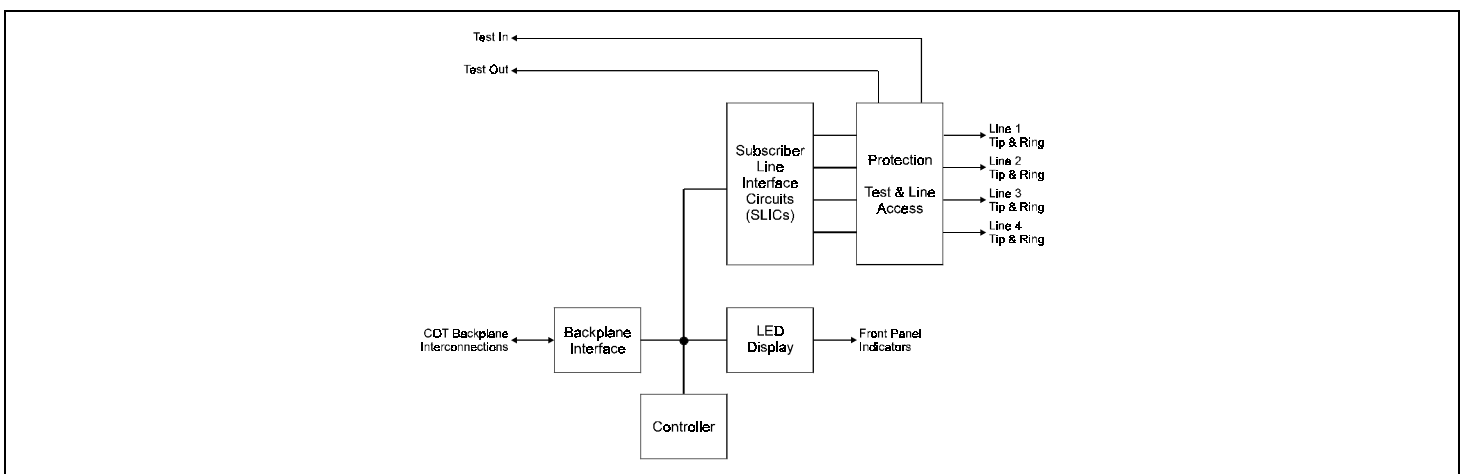

Figure 3. FRC-751 Block Diagram.
6.02 A block diagram of the FRC-751 is shown in Figure 3.